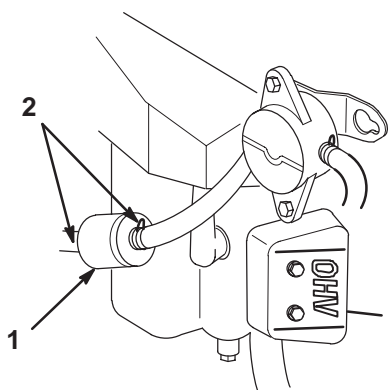

Figure 32
3. Squeeze the ends of the hose clamps together and slide them away from the filter (Fig. 32).